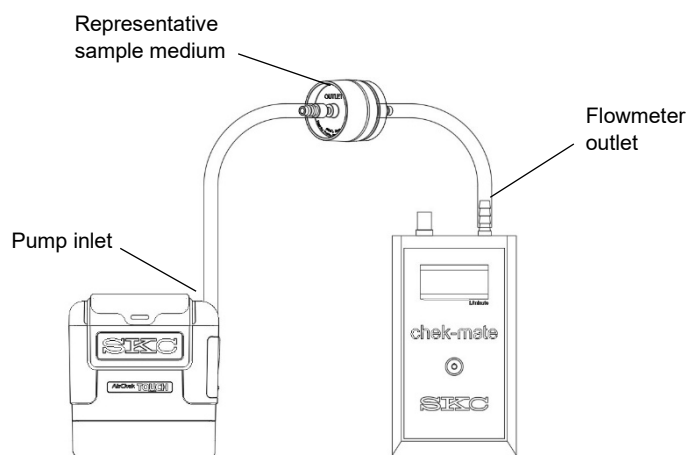

Figure 2. Medium and Low Flow Rate Verification Train
2. Prepare the flow rate verification train. Connect the flowmeter outlet to the train inlet (Figures 2 and 3):
- a. **For medium flow and low flow models**, use flexible 1/4-inch ID tubing, and if required by the sampler, a calibration adapter. See Figure 2.